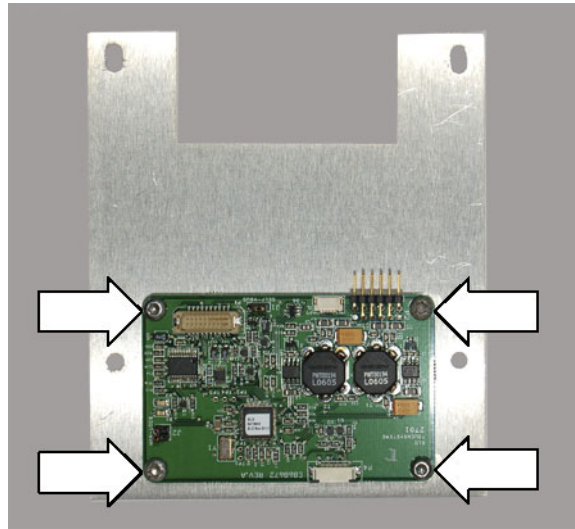

Figure 10: Installing the Touch Panel Controller board to the bracket
- b. Secure the Touch Panel Controller board to the bracket (Tektronix part number 407-5001-xx), using the four screws (Tektronix part number 211-0503-xx). See Figure 10.